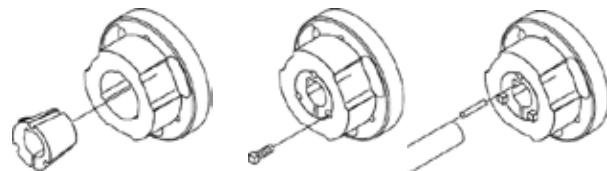

FIGURE 16: BUSHING SHAFT INSTALLATION
6. Take the engine coupler half and place a 1 inch bushing into the center of the coupler aligning the 3 open holes. Take 2 square head cap screws and screw finger tight into the two opposite holes across from each other on the bushing. Take $\frac{1}{4}$ " slotted key, install between bushing and slide coupler half onto the engine shaft. Leave loose and go to step 7. Reference Figure 16.